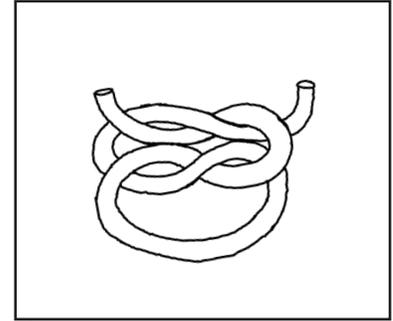

Fig. 3
2. Repeat the action, but this time lead with the left side: move the thread on the left to the right, passing it under and over (see figure 3).